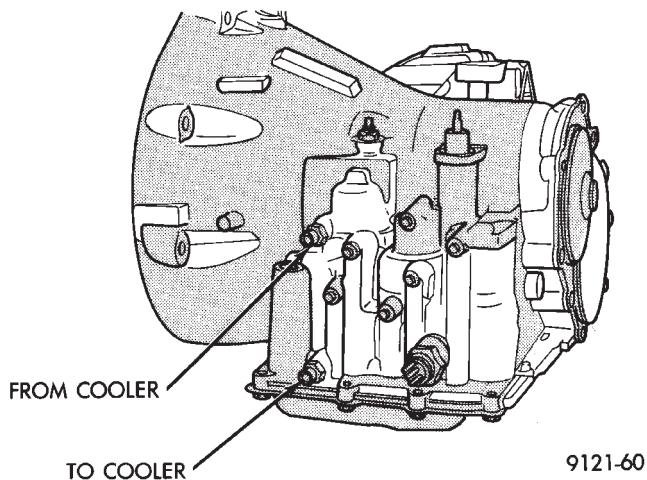

Fig. 8 Cooler Line Identification
- (1) Disconnect the cooler lines at the transmission.
- (2) Using a hand suction gun filled with mineral spirits, reverse flush the cooler. Force mineral spirits into the **From Cooler** line of the cooler (Fig. 8) and catch the exiting spirits from the **To Cooler** line. Observe for the presence of debris in the exiting fluid. Continue until fluid exiting is clear and free from debris.